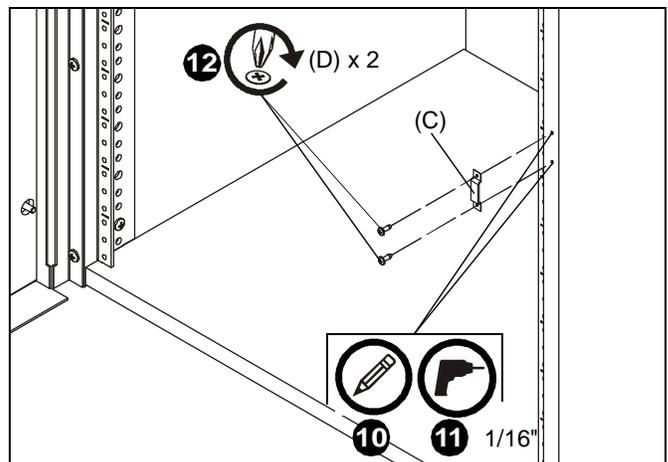

Figure 3
9. Position lock bracket (C) over cam making sure the cam can clear the bracket when turned completely from locked to unlocked position.
10. Mark the location of the two holes on the lock bracket (C). (See Figure 3)
11. Drill two 1/16" holes, 1/2" in depth, at these marked locations. (See Figure 3)
12. Use two #10 x 5/8" Phillips pan wood screws (D) to attach lock bracket (C) to rack. (See Figure 3)